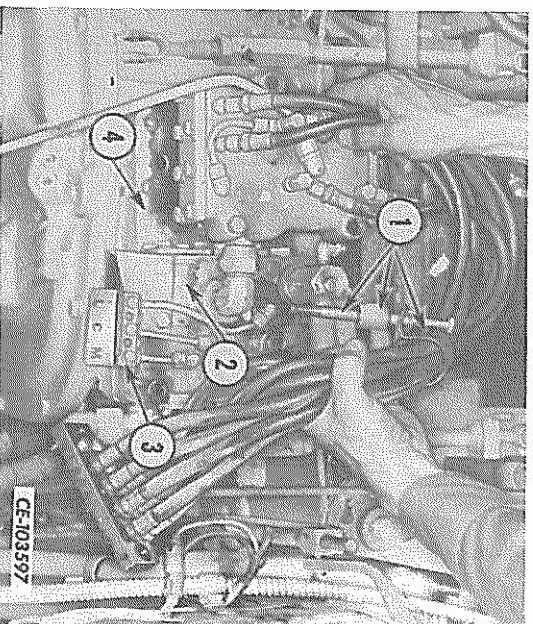

FIG. 11 – Removing the Range Selector Valve Assembly
17. Remove the mounting hardware securing the range selector valve assembly to the transmission. Remove the range selector valve with hi-lo shifter tube, transmission hoses and the hose clamp, bolt and spacer assembly (1, Fig. 11) attached. Discard the valve mounting "O" rings.
18. Remove the mounting hardware and remove the main regulating valve assembly (2, Fig. 11). Discard the mounting gasket.
19. Remove the mounting hardware and remove the valve spacer (4, Fig. 11) from the transmission case. Discard the mounting gasket.